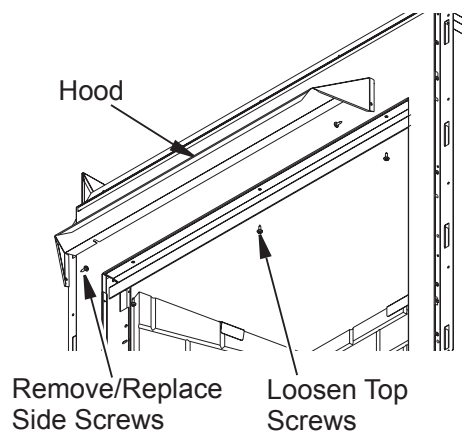

Figure 13 - Hood Placement
2. For Indoor/outdoor models, loosen screws along the fireplace top face. Remove two screws along fireplace face side. Slide hood underneath screws on top and tighten screws. Replace screws on side of fireplace face side securing hood to the face (see **Figure 13**).